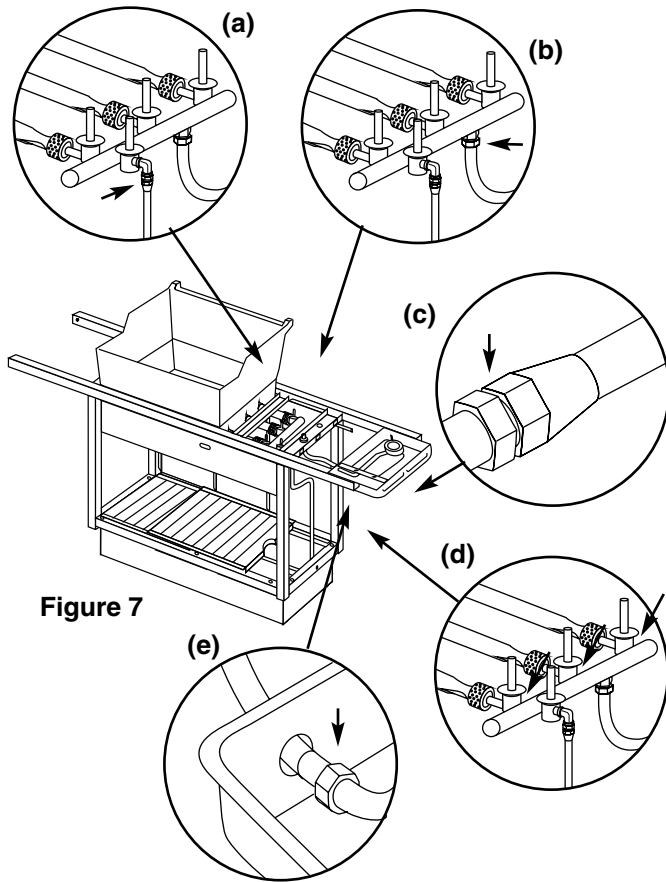

Figure 7
- Barbecue gas supply line to FlameCheck valve connection. Figure 7 (a).
- Manifold to side burner hose connection. Figure 7 (b).
- Barbecue gas supply line to natural gas supply connection. Figure 7(c).
- d) Valves to manifold connections. Figure 7 (d).
- e) Side burner hose to side burner connection. Figure 7 (e).